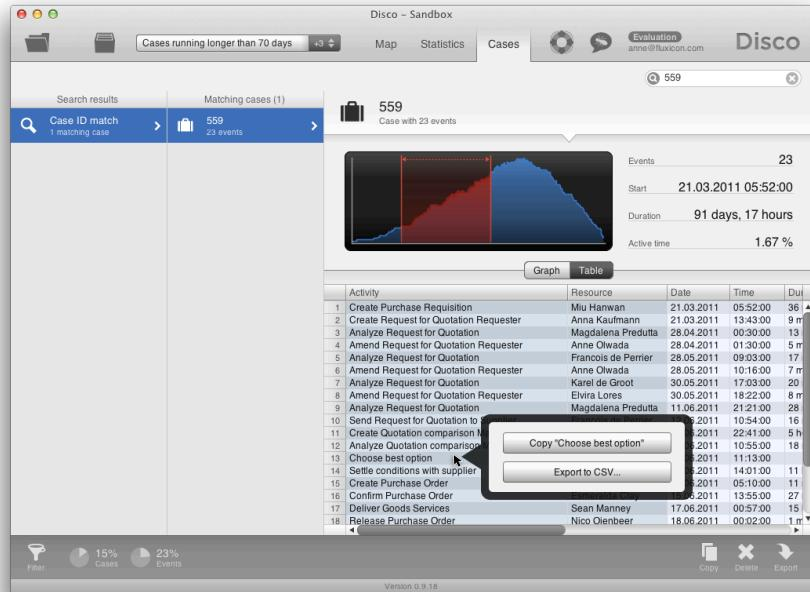

Fig. 7.11. Also the history table of individual cases can be exported as a CSV file.
- Another scenario would be to export the detailed history of a particular case as shown in Figure 7.11.